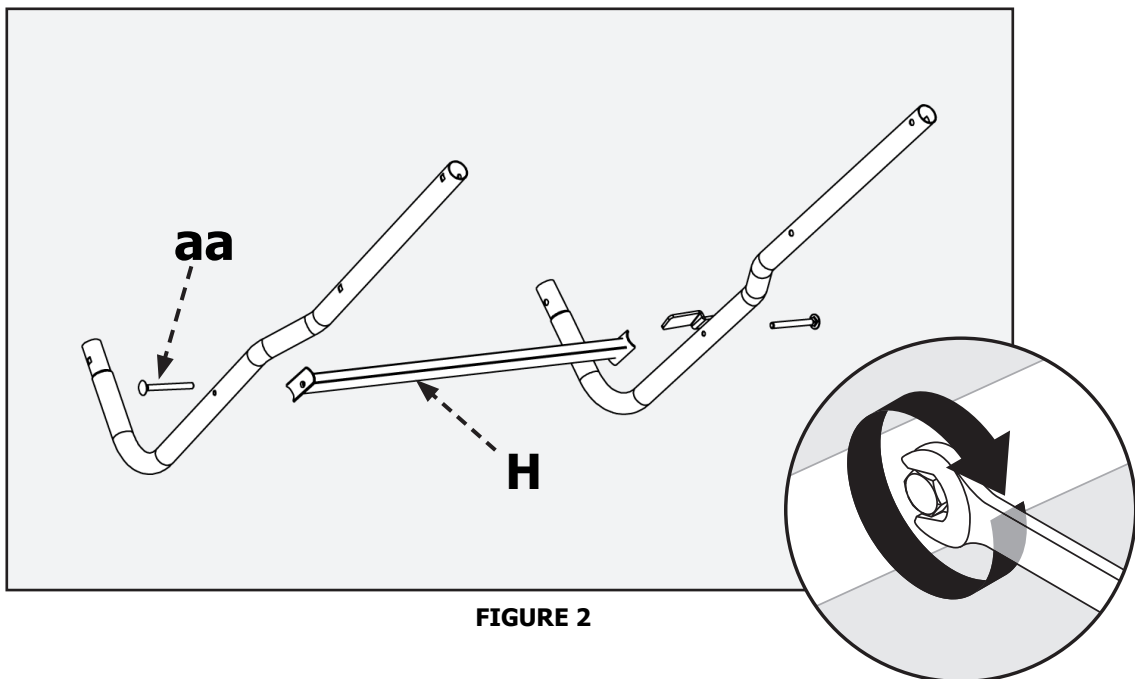

FIGURE 2
Attach Support Rod Connection Tube (G) onto the leg assembly from step Figure 2. Secure with M8 x 35mm (1.38") cap screw (ff) and nut (dd).
**NOTE:** The feet Support Rod Connection Tube (G) should face to the outside (left).